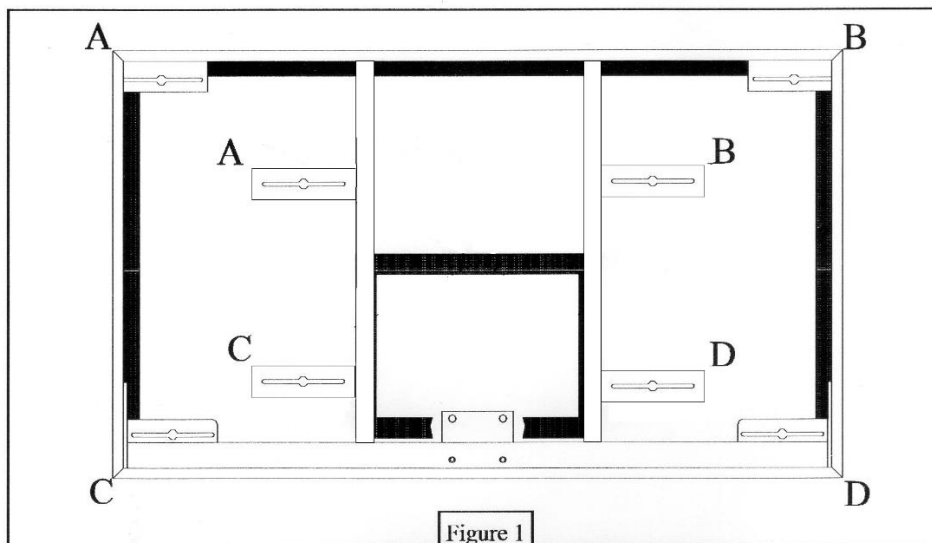

Figure 1
4. Use a 3’ level to check the face of the glass to make sure it is flat and level in all directions. Do not allow play until backboard has been determined to be stress free and level in all directions. See Figure 1.
5. If the backboard is stressed or out of level, loosen the backboard at points A&D as shown in Figure 1. If the backboard springs away from the support structure at either point, this is a good indication the glass is under stress when bolted tightly to the support structure.
NOTE: Figure 1 depicts mounting bracket locations for both corner mount and conversion mount backboards.